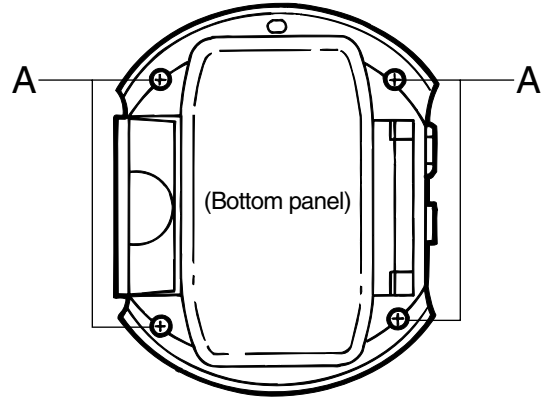

Fig.1
■ Removing the metallic cover (Fig. 1)